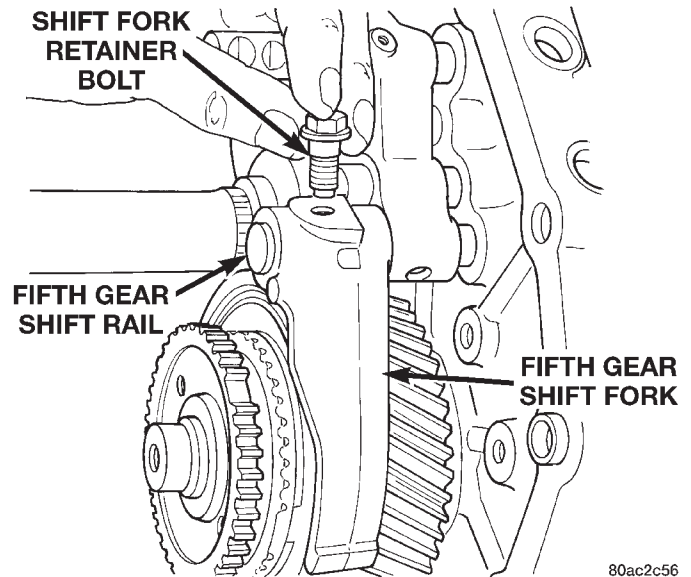

Fig. 51 Remove Shift Fork Retainer Bolt
- (3) Remove bolt holding fifth gear shift fork to shift rail (Fig. 51).